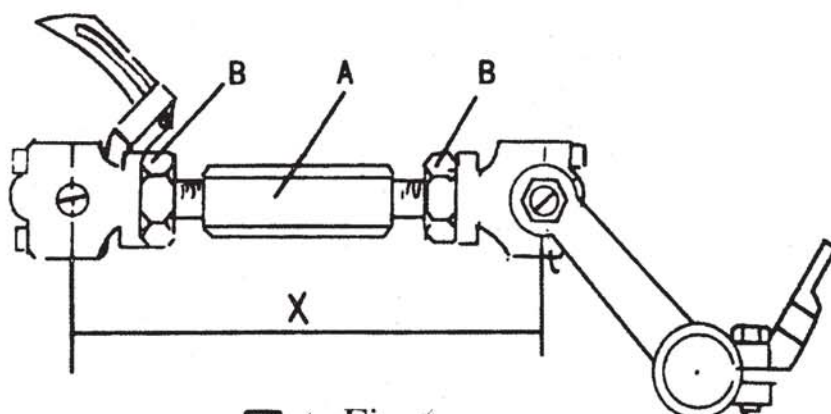
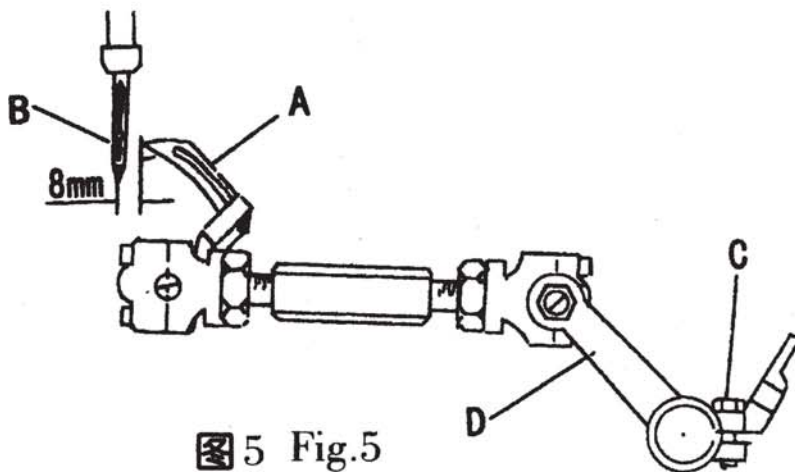
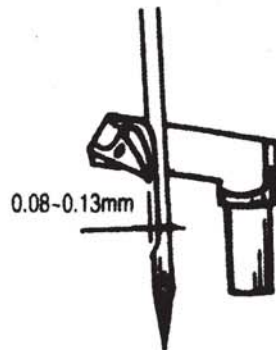
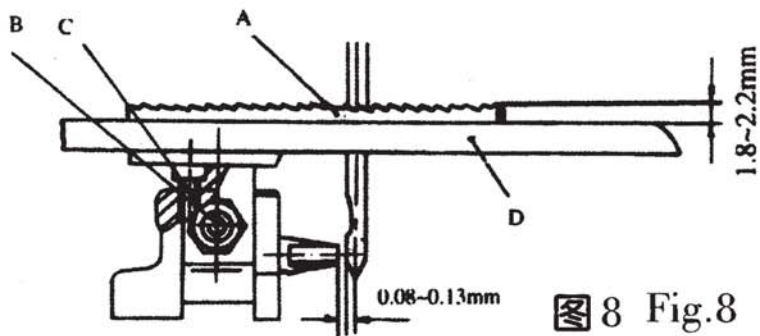

图 4 Fig.4
图5 Fig.5
图6 Fig.6
图8 Fig.8
(一) 首先调节连接杆(图4, A), 使两球轴承(X)中心线间距为69.8毫米($2\frac{3}{4}$ 英寸), 调节时拧松二个螺母(B), 顺旋或倒旋连接杆(A)使(X)距离符合要求后再锁紧螺母。
(1). First set the looper connecting rod(A, Fig. 4), so the distance (X, Fig. 4) between the centerlines of the two ball joints is 69.8mm(1 3/4 in.). For adjustment loosen the two nuts(B) and turn connecting rod(A) forward or backward as required to obtain specified dimension. Retighten nuts(B). Caution: The left nut has a left hand thread.
带轮, 使针杆下移至最低点, 同时弯针退至最右边位置, 此时弯针(图5, A)尖和机针(B)的中心线距离为8毫米(5/16英寸)。调节时拧松弯针外曲柄的两只螺钉(C), 左右转动弯针外曲柄(D), 调节至需要的尺寸后再拧紧螺钉(C)。
(2). Rotate the machine pulley clockwise by hand, so that the needle bar moves to the lowest point, at the same time the looper moves back to its farthest position to the right. The distance from the point of the looper (A, Fig. 5) to the centerline of the needle is 8mm(5/16 in.). For adjustment, loosen two screws(C) in the looper drive lever, rotate looper drive lever(D) left or right as required to obtain specified dimension and retighten screws(C).
(三) 继续转动皮带轮, 使弯针(图5, A)从右向左运动时靠近机针背面的凹形处通过而不得接触, 其间隙为0.08毫米-0.13毫米(0.003至0.005英寸)(图6所示)。调节时拧松弯针小偏心摇杆(图4, C)的螺钉(图4, D), 按需要把弯针向前或向后摆动从而转动弯针架轴(图4, E)再拧紧螺钉(D)。
(3) Rotate the machine pulley so that the looper moves from right to left. The looper point should pass as close possible to the back of the needle without contacting 0.08-0.13mm(.003 to .005 in.) (clearance). For adjustment loosen screw(D, Fig. 4) in the looper eccentric fork (C) and turn rocker shaft (E) on the looper rocker with looper forward or backward as required. Retighten screw (D).
缝纫时由于袋边接处厚度不一致，往往会使机针刺在缝料厚薄交界处而弯曲或发生故障，而机针挡块（图5E）则可起到保护作用。两者的间隙为0.08~0.13毫米（0.003至0.005英寸），（图8所示）。调整时将皮带轮按工作方向转动，使机针挡块靠近机针，拧松牙架上（图5，F）紧定螺钉（G），移动机针挡块（E）至合适间隙后再拧紧螺钉（G）。
The needle will bend or break when abutting bags made of different thickness of sewing material. And the needle guard (E, Fig. 5) will protect the needle. The clearance between the needle and the needle guard is 0.08 -0.13mm (.003 to .005 in.) (Fig. 8). For adjustment, rotating pulley in the direction of operating, so that the needle guard moves against the needle. Loosen set screw (G) on feed dog holder (Fig. 5), move the needle guard accordingly. Retighten screw (G).
根据缝料质量与厚度确定送料牙（图8，A）高度。对于布袋、塑料编织袋等薄料，齿面应高出针板（D）上平面约1.8毫米（0.070英寸），麻袋约2.2毫米（0.090英寸），调整时先将送料牙行至最高点，卸下针板和送料牙。按需要的高度调节支承螺钉（C）后，重新装上送料牙和针板，并紧固六角螺母（B）。
The height of the feed dog (A, Fig. 8) are determined by the quality and thickness of the sewing materials. For closing thin material such as bags made of cloth and plastic, teeth should project 1.8mm (.070 in.) above the throat plate (D) top surface, and for sacks about 2.2mm (.090) above the throat plate. For setting, move the feed dog to the highest position, remove throat plate and feed dog, adjust the supporting screw (C) as required, remount the feed dog and throat plate. Retighten screws (B).